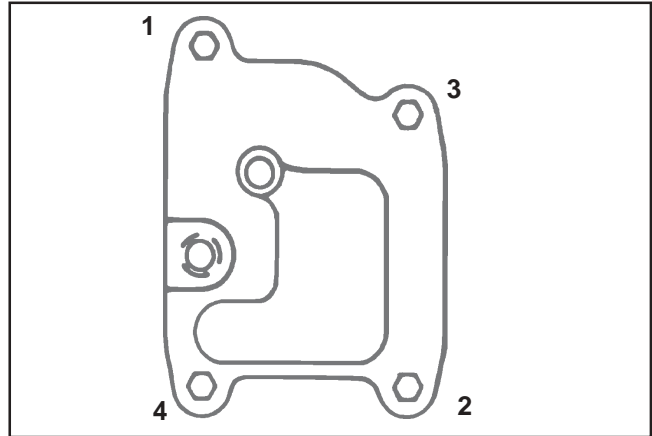

Figure 11-68. Breather Cover Fastener Torque Sequence.
7. Torque the four breather cover screws to **7.3 N·m (65 in. lb.)** in the sequence shown in Figure 11-68.